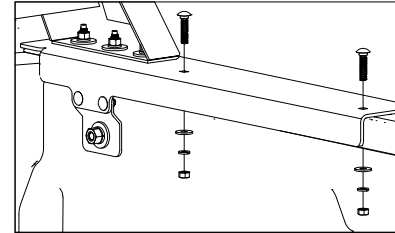

Figure C3: View looking at passenger side bed rail.
- 4. Install the carriage bolts.** Insert a 5/16" x 1-1/2" carriage bolt in each of the drilled holes and secure using a flat washer, lock washer, and finish nut, see Figure C3. Tighten each nut to 18 ft-lbs.